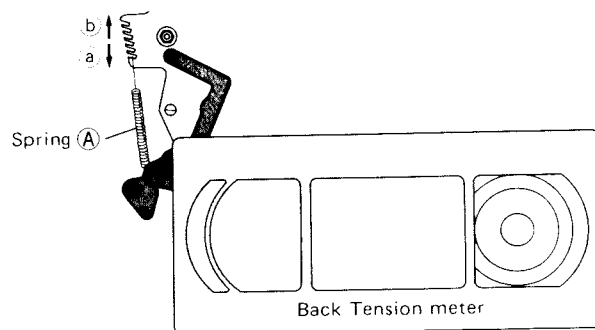

Fig. 4-3
- 3) If the mean value exceeds 58 g-cm adjust the value to 54 g-cm by adjusting the location of the spring (A) in the direction of arrow (a) as shown in Fig. 4-3.
- 4) If the pointer mean value is much less than 50 g-cm, adjust it to 54 g-cm by adjusting the location of the spring (A) in the direction of arrow (b).